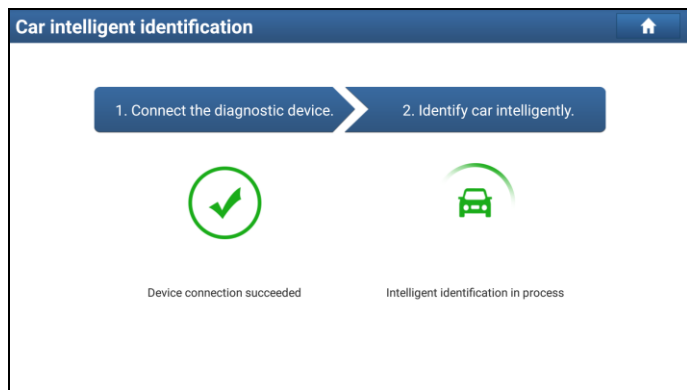

Fig. 5-1
1. Tap "Intelligent Diagnosis" on the Job menu screen to enter Fig. 5-1.